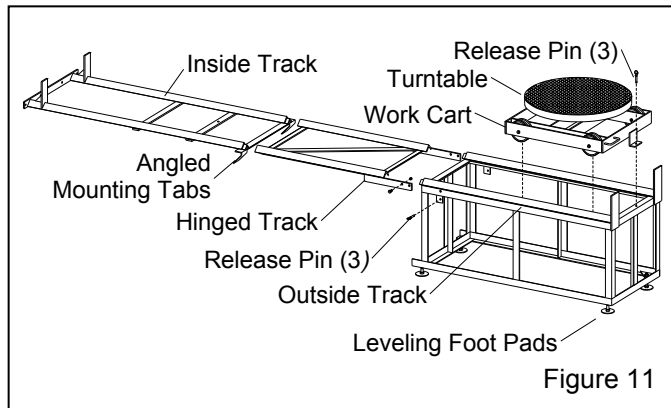

Figure 11
3.5.1 These instructions cover field installation of the 2000 lb. capacity track and workcar with turntable. If the track was ordered with the cabinet, it is partially assembled at the factory. Disregard the instructions that do not apply. Refer to Figure 11 for arrangement of the major components.